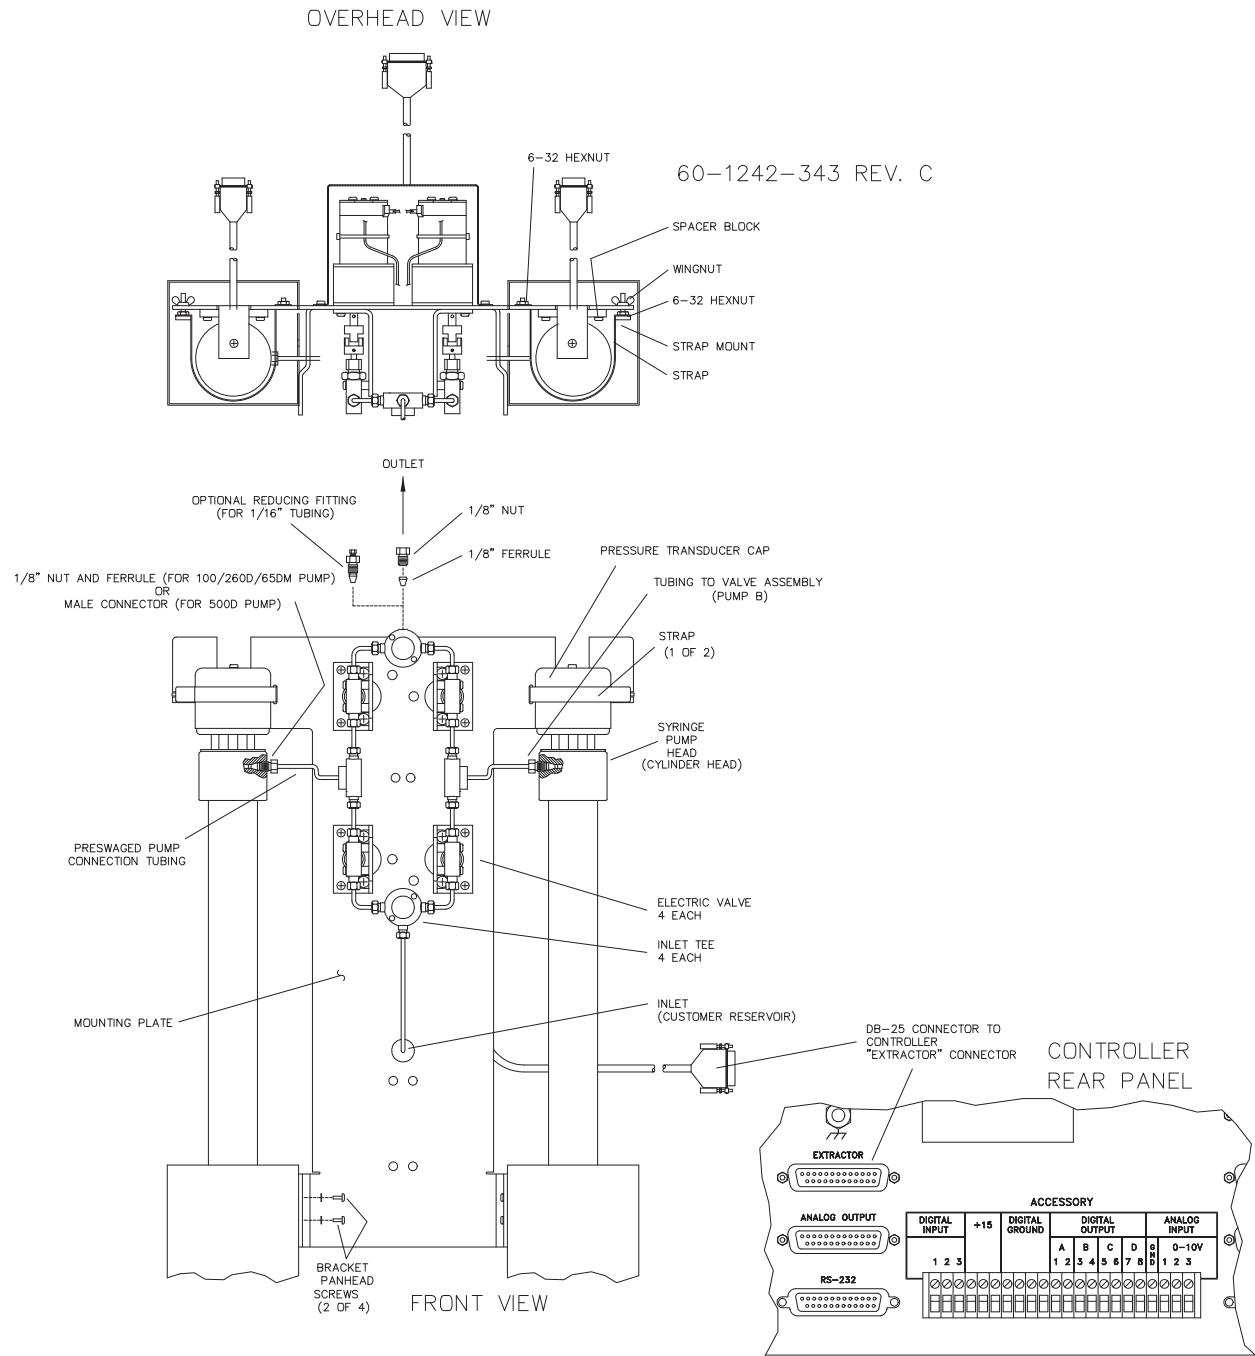

Figure 8-6 Electric valve installation
To install the electric valve package (refer to Figure 8-6):
8. Connect the DB-25 cable to the controller rear panel “SFX 220/VALVES” connector (Figure 8-6).